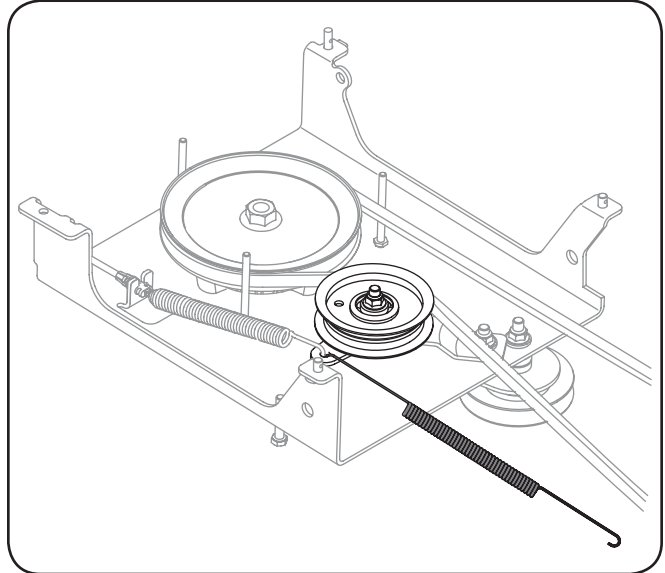

Figure 3-9
7. Attach the extension spring to the idler pulley. See Fig. 3-9.